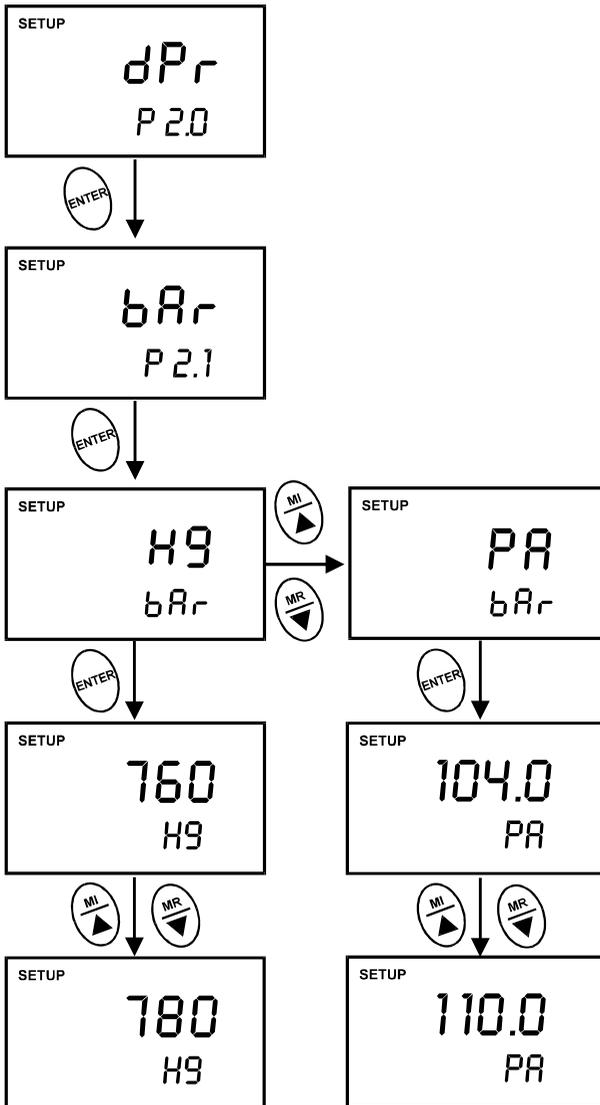

Figure 18: Change pressure units (mm Hg or kPa) & adjusting its values
3. Press the ENTER key twice. The upper display shows either Hg or PA and the lower display shows bAr. See Figure 18 next page.